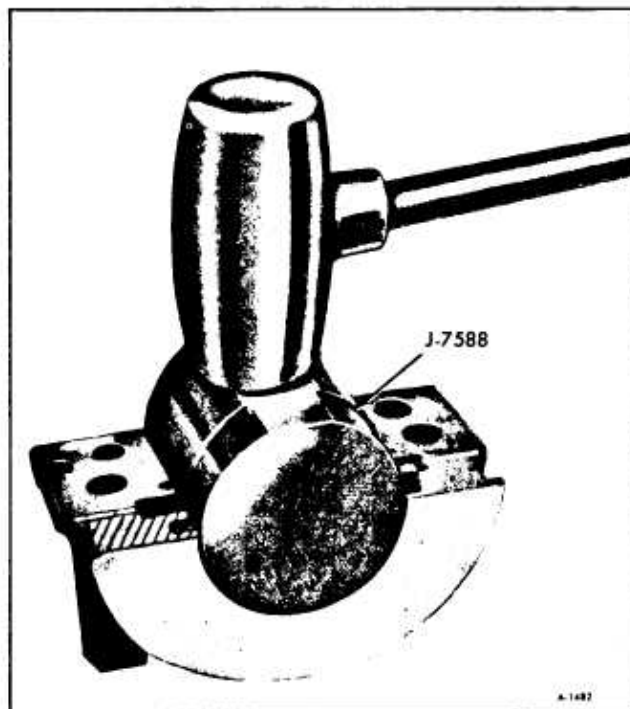

Figure 71-Installing Rear Main Seal-Lower Half
2. Using seal installer J-7588 hammer seal into groove. (See figure 71).
4. Apply sealer on shaded areas of Figure 71.